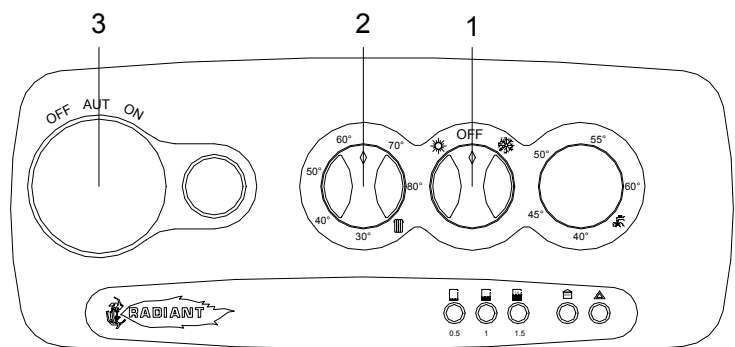

Fig. 1
- ⇒ **The anti-freeze system will come into operation only if the boiler is in the «ON» position (with selector switch 1 in fig. 1 turned to the summer or winter position) and the gas supply turned on. The manufacturer can accept no responsibility for damage to the boiler caused by lack of observation of these requirements.**
LEGEND (see fig. 1)
- Turn selector switch 1 to the ❄ symbol denoting winter (see fig.1).
The heating temperature is regulated by turning knob 2 (see fig.1) to the temperature required, chosen from the different values printed around the selector.
- set Main Switch (1) to OFF position (see fig.1 page I)
- set Main Switch (1) either to summer or winter position (see fig. 1 page I). The boiler comes into operation.